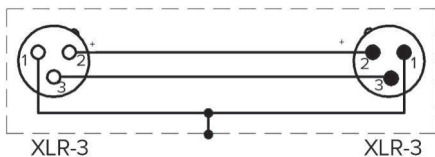

Fig. 3
- Connect the power supply unit PSU-103 to the audio mixing console by any microphone cable XLR-3 (Fig. 3).
- Switch on the mains switch (5), the indicator lamp (1) lights up on the panel. The device is ready for operation.